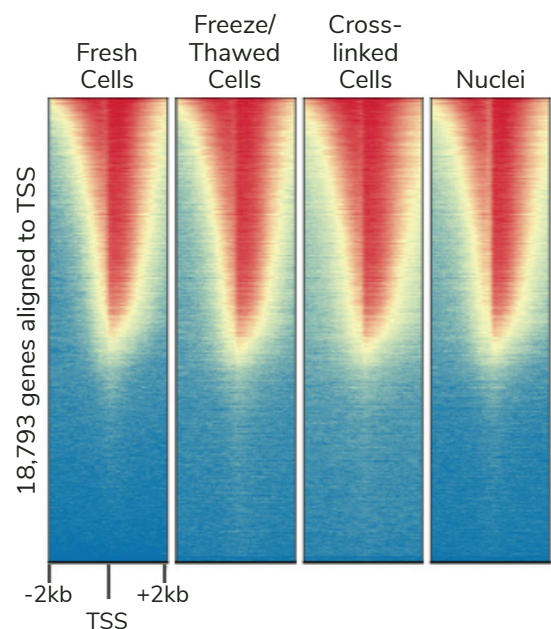

FIGURE 3
- **Diverse sample compatibility.** Validated for cells and nuclei, including cryopreserved and cross-linked samples (Figure 3). All sample prep protocols are available at support.epicypher.com.